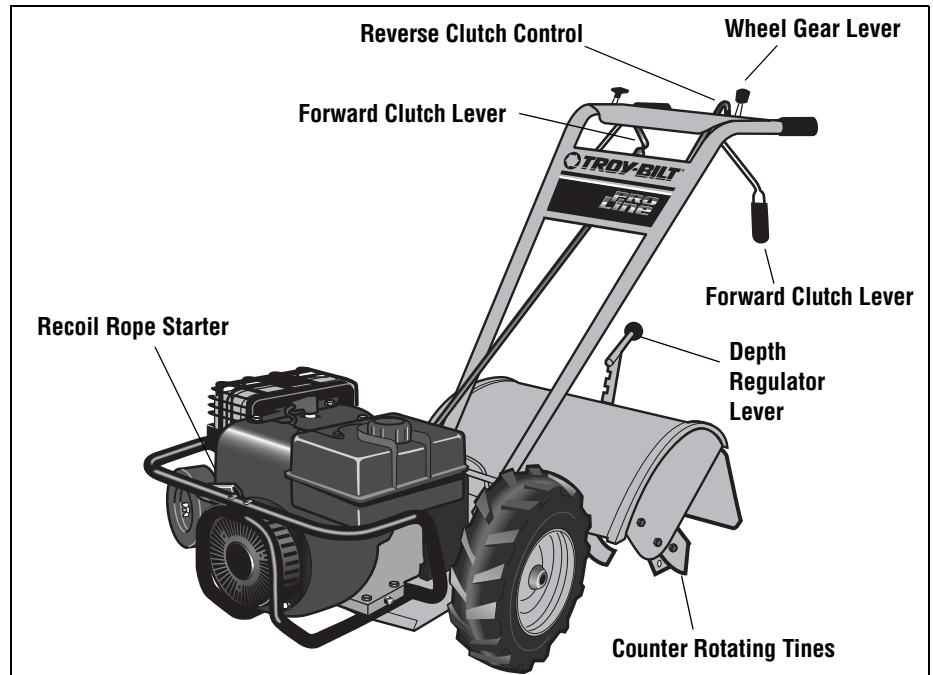

Figure 4-1
2. Put the Wheel Gear Lever (Figure 4-1) into the ENGAGE position.